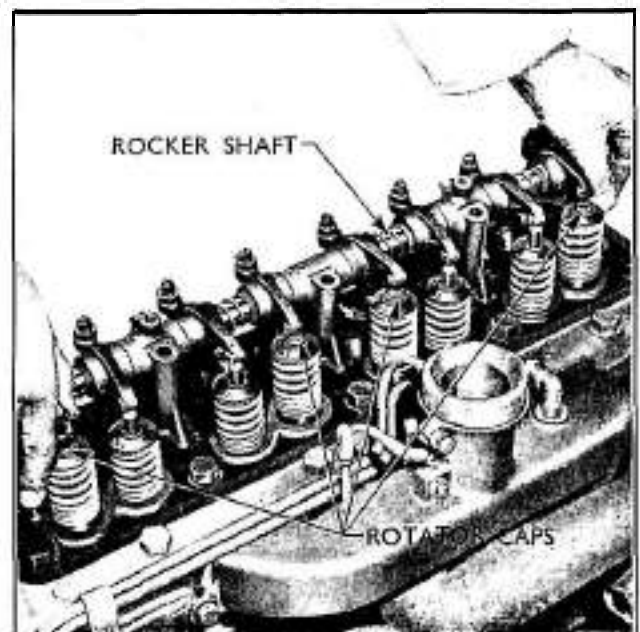

Fig. 1
- 4 Release the tab washers on the five rocker shaft bolts. Gradually unscrew the bolts and lift off the rocker shaft, taking care not to dislodge the rotator caps from the exhaust valves if this type of valve assembly is fitted. (See Fig. 1.)